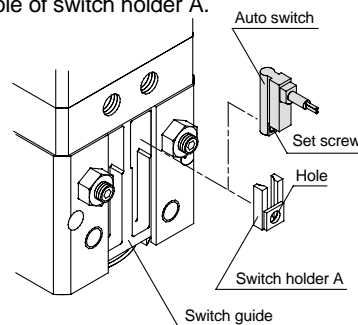

Figure 2
1. Position switch holder A in the groove of the switch guide in the direction indicated in Figure 2.